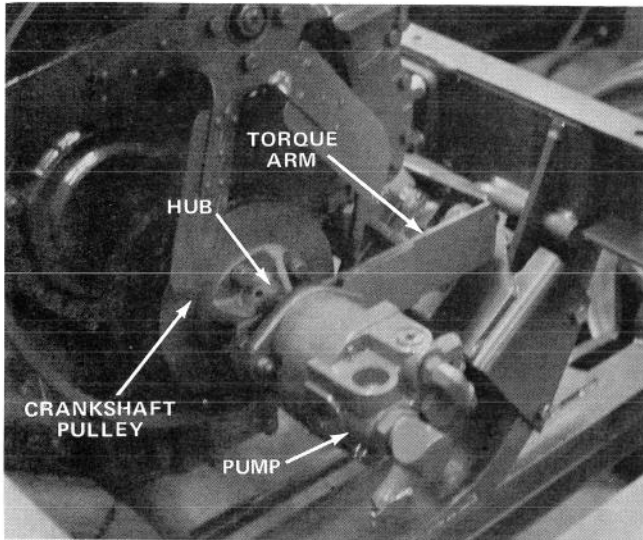

Figure 58
2. Remove the capscrew and locknut from the end of the torque arm and the three hub mounting capscrews from the crankshaft pulley (Fig. 58) and remove the pump.